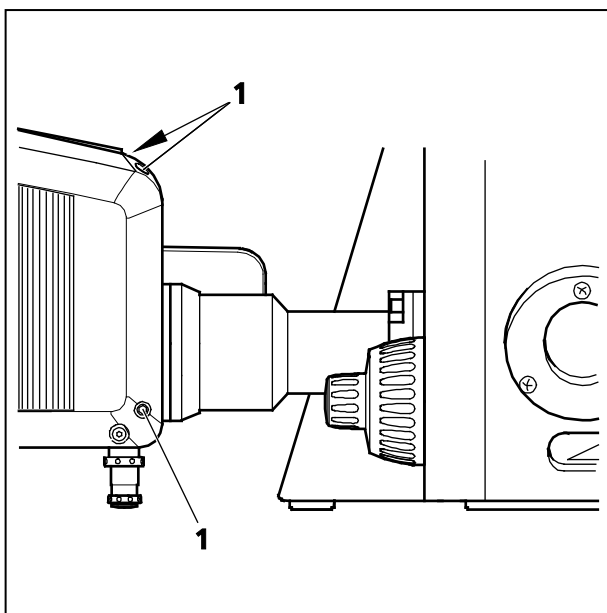
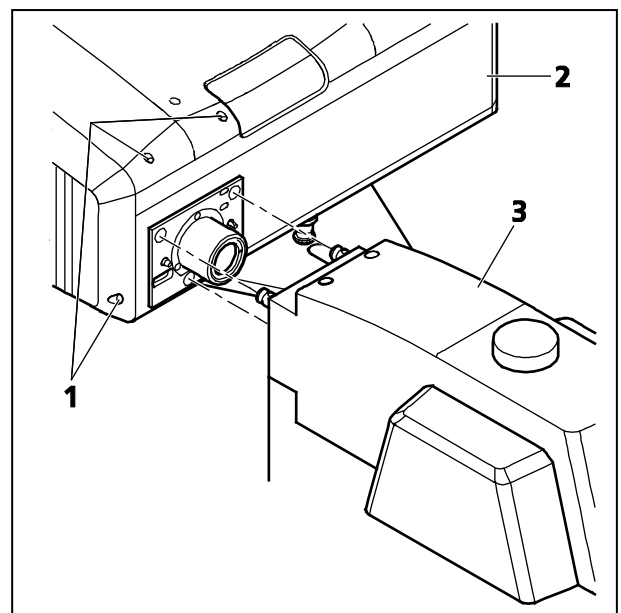

Fig. 24 Port connection between LSM and Axio Observer.Z1
Fig. 25 Port connection between LSM and Axio Examiner or Axio Imager.Z2
- Loosen the three fastening screws of the LSM 710 / LSM 780 (Fig. 24/1 and Fig. 25/1).
- Slowly pull the scanning module (Fig. 25/2) away from the microscope port or the tube (Fig. 25/3).
- Fasten the three fastening screws of the LSM 710 / LSM 780 (Fig. 24/1 and Fig. 25/1).